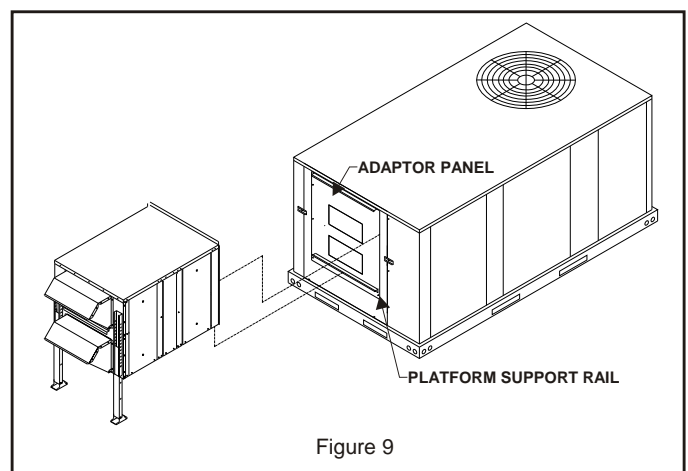

Figure 9
2. Install new adaptor panel over economizer and secure. **See Figure 9.**
3. Locate ERS support rail and install on the bottom of the return air opening of adaptor panel with flange pointing upward. **See Figure 9.**